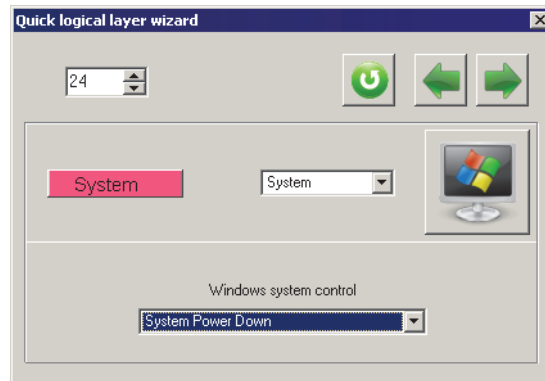

Fig. 5.15.
**Quick logical layer wizard** dialog for this function is shown on Fig. 5.15.